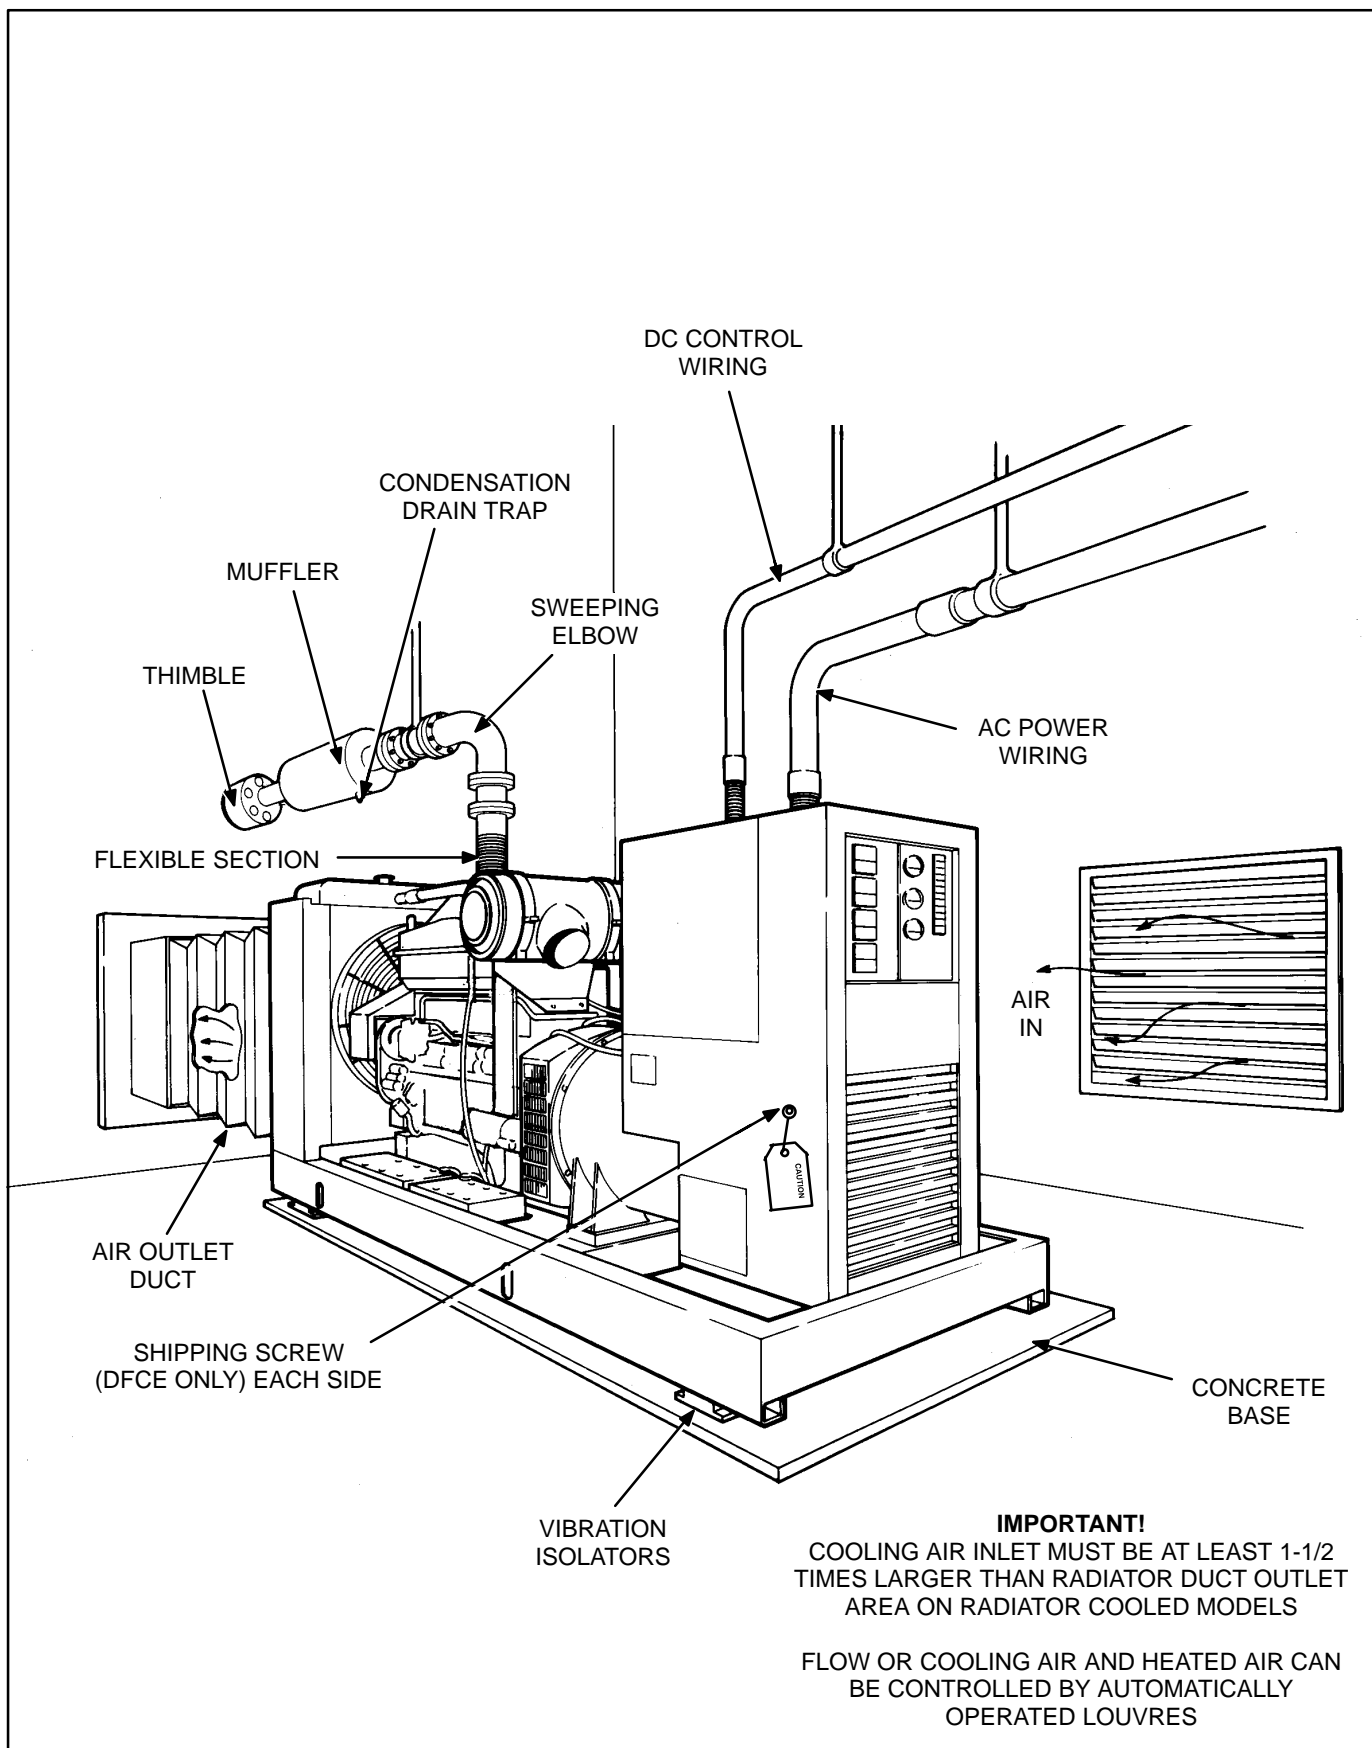

FIGURE 3-2. TYPICAL INSTALLATION
Use 5/8 inch or 16 mm anchored mounting bolts to secure the skid to the base. Secure the skid using flat or bevel washer and hexagonal nut for each bolt (see Figure 3-2). The 1-1/2 x 6 inch pipe inserted over the mounting bolts allows minor adjustment of the bolts to align them to the holes in the skid.
7. Model DFCE only: With the genset in position and secured to the isolators, remove the two controller cabinet shipping screws (see Figure 3-2).